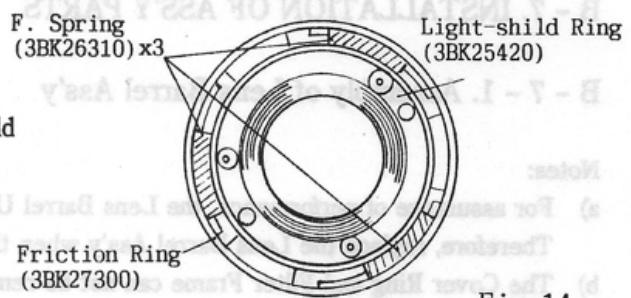

Fig.14
- 2) Set the F. Spring (3BK26310)  $\times$  3 in the Light - shield Ring. (See Fig.14)